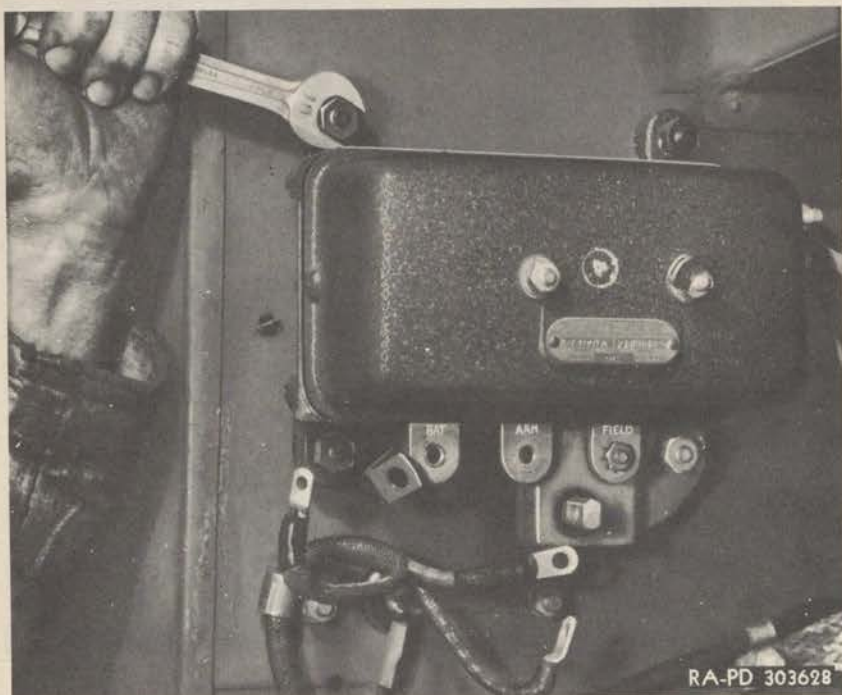

Figure 81—Removing Regulator Mounting Nuts
(5) **REMOVE REGULATOR MOUNTING NUTS.** Remove the nuts, lock washers and toothed lock washers holding the regulator mounting legs to the cowl panel (fig. 81).